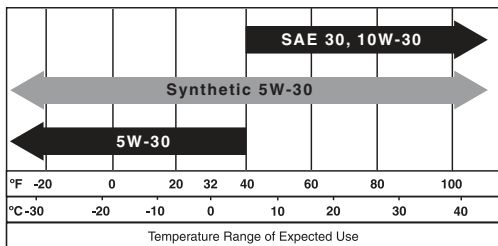

FIGURE 24: Recommended Oil Viscosity
SAE 10W-30 is recommended for general temperature use. Refer to Figure 24 for information on other viscosities that may be used. Other viscosities shown in chart may be used when average temperature in your area is within indicated range.
<input type="checkbox"/>	Unused engine oil (SAE type indicated in Figure 24)
- Pour new (unused) engine oil into oil fill hole using funnel. (See Figure 24 for recommended oil type). Do not overfill.